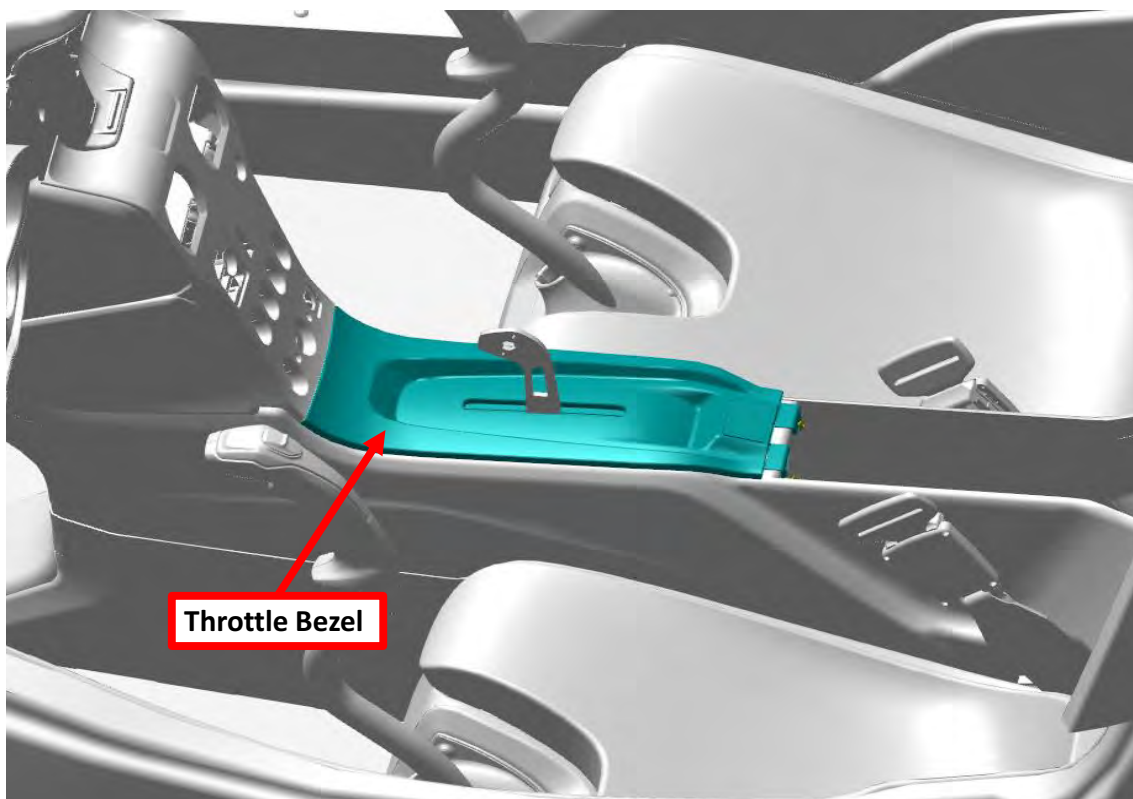

FIGURE 8-9
2. Install throttle bezel. Slide bezel tabs under radio stack bezel and push bezel into place. See Figure 8-9.